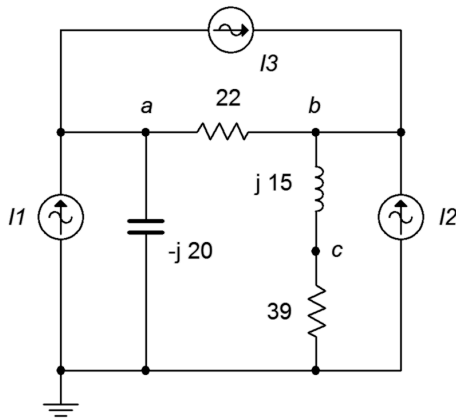

Figure 6.20
39. Use nodal analysis to find the current through the $22\ \Omega$ resistor in the circuit of Figure 6.20.
40. Given the circuit in Figure 6.20, use nodal analysis to determine v_c . $I1 = 4\angle 90^\circ$, $I2 = 10\angle 120^\circ$,